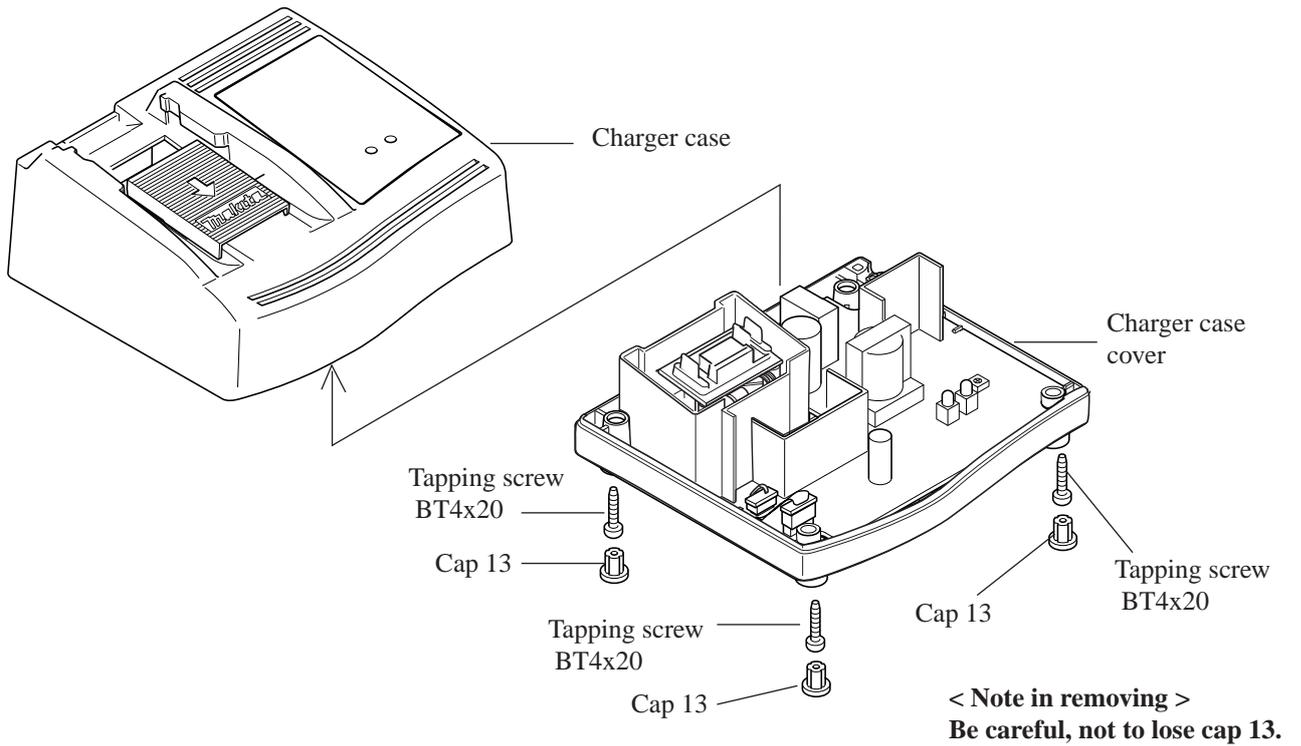

Fig. 1
Charger case can be removed from charger case cover by unscrewing 4 pcs. of tapping screws BT 4x20. See Fig. 1.
- (1) Remove charger case as illustrated in Fig. 1 at page 3.